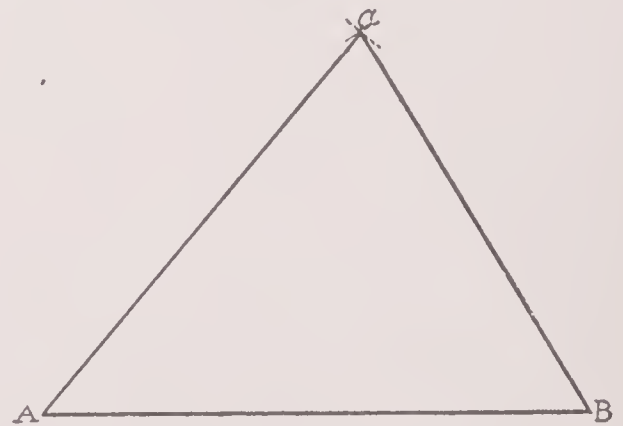

Fig. 9
9. Having given the three sides of a triangle, to construct the triangle (Fig. 9):